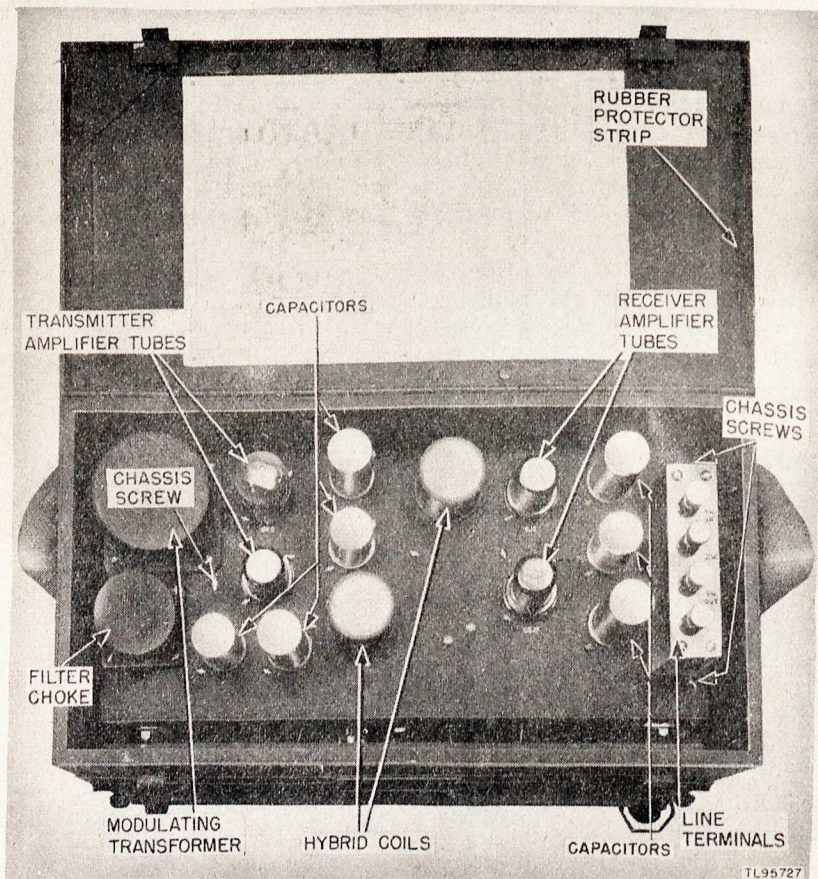
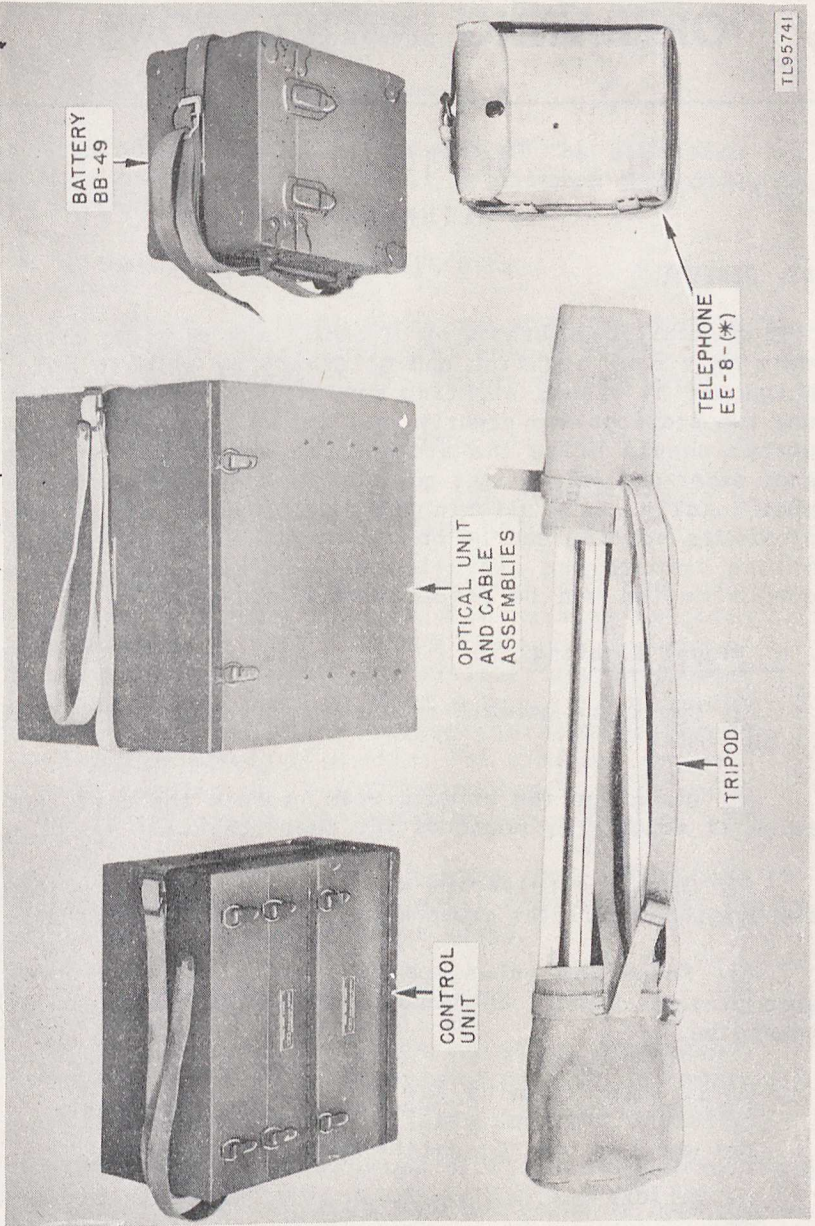

Figure 8. Control unit, cover raised.
Figure 15. Optiphone AN/TVC-1 (XO-1),
6. CONTROL UNIT (figs. 8 and 9).
a. Amplifier Section. The amplifier section is contained in a sheet metal case 15-1/4 inches long, 8 inches wide, and 7 inches high. A hinged lid fastened by two suitcase-type latches provides access to the line terminals and the chassis of the amplifier. The terminals, starting from the rear, are marked as follows: 4W IN, 2W, and 4W OUT (fig. 8). A rubber-padded notch in the lid near the line terminals provides a means of bringing out the lines when the lid is closed. A hinged door fastened by two suitcase-type latches in the front of the unit provides access to the control
(4) Connect the line terminals on the telephone to the terminals marked 2W on the terminal board of the control unit (fig. 8).
(5) Lay the telephone line wires over the right side of the control unit case and close and fasten the cover.
12. REPACKING FOR TRANSPORT AND STORAGE (fig. 15).
h. Collapse the tripod legs to minimum length. Fasten the retaining strap (fig. 7) and place in the tripod case (fig. 15).